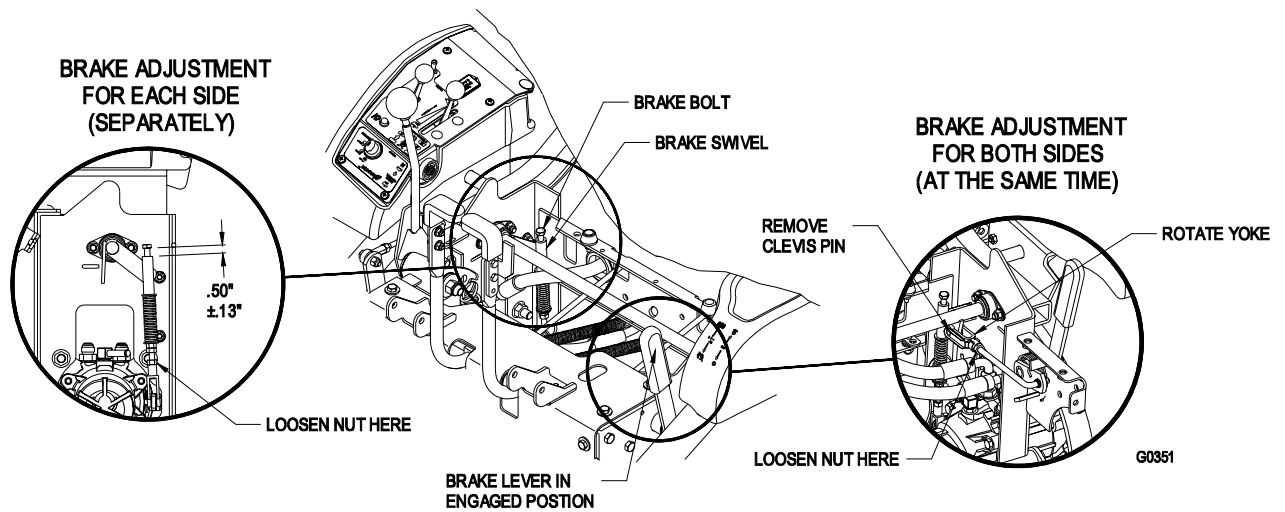

FIGURE 12
- A gap must exist between the bottom of the brake bolt head and the top surface of the brake swivel as shown in Figure 12. If a gap does not exist, adjust the linkage to a maximum gap of 0.5" ± 0.13" (1.3 cm ± 0.33 cm) as shown.
- The brakes on both sides can be simultaneously adjusted by lengthening or shortening the linkage shown in Figure 12.